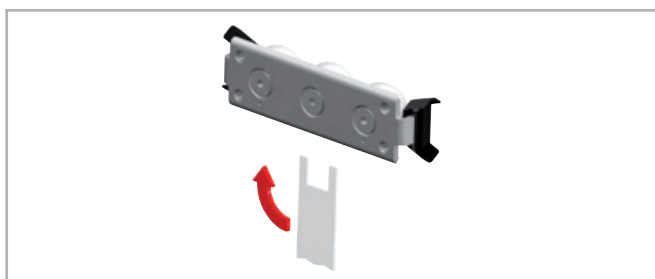

Fig. 54
- (1) Wipe the raceways of any dirt and debris.
- (2) If necessary, remove existing wipers and insert the sliders into the rails. Slightly loosen the fixing screw of the center roller pin.
- (3) Position the slider(s) at the ends of the rail.
- (4) For the U rails there must be a thin support (e.g. set key) under the ends of the slider body to ensure the horizontal alignment of the slider in the flat raceways.
- (5) The included special flat key is inserted from the side between the rail and the slider and inserted onto the hexagonal or square shaft of the eccentric pin to be adjusted (see fig. 54).
- (6) By turning the flat key clockwise, the eccentric roller is pressed against the upper raceway, thereby removing clearance and setting the correct preload. During this process, absence of play is desired; avoid setting a preload that is so high that it generates high friction and reduces service life.
- (7) Hold the roller with the adjustment key in the desired position and carefully tighten the fixing screw. The exact tightening torque will be checked later.
- (8) Move the slider in the rail and check the preload over the entire length of the rail. It should move easily and the slider should not have play at any location of the rail.
- (9) Tighten the fixing screw with the specified tightening torque (see tab. 47), while holding the flat key and maintaining the angle position of the roller so as to not change the preload while tightening the screw. It is recommended to use thread locking compound.
- (10) Now re-attach the existing wipers if desired.